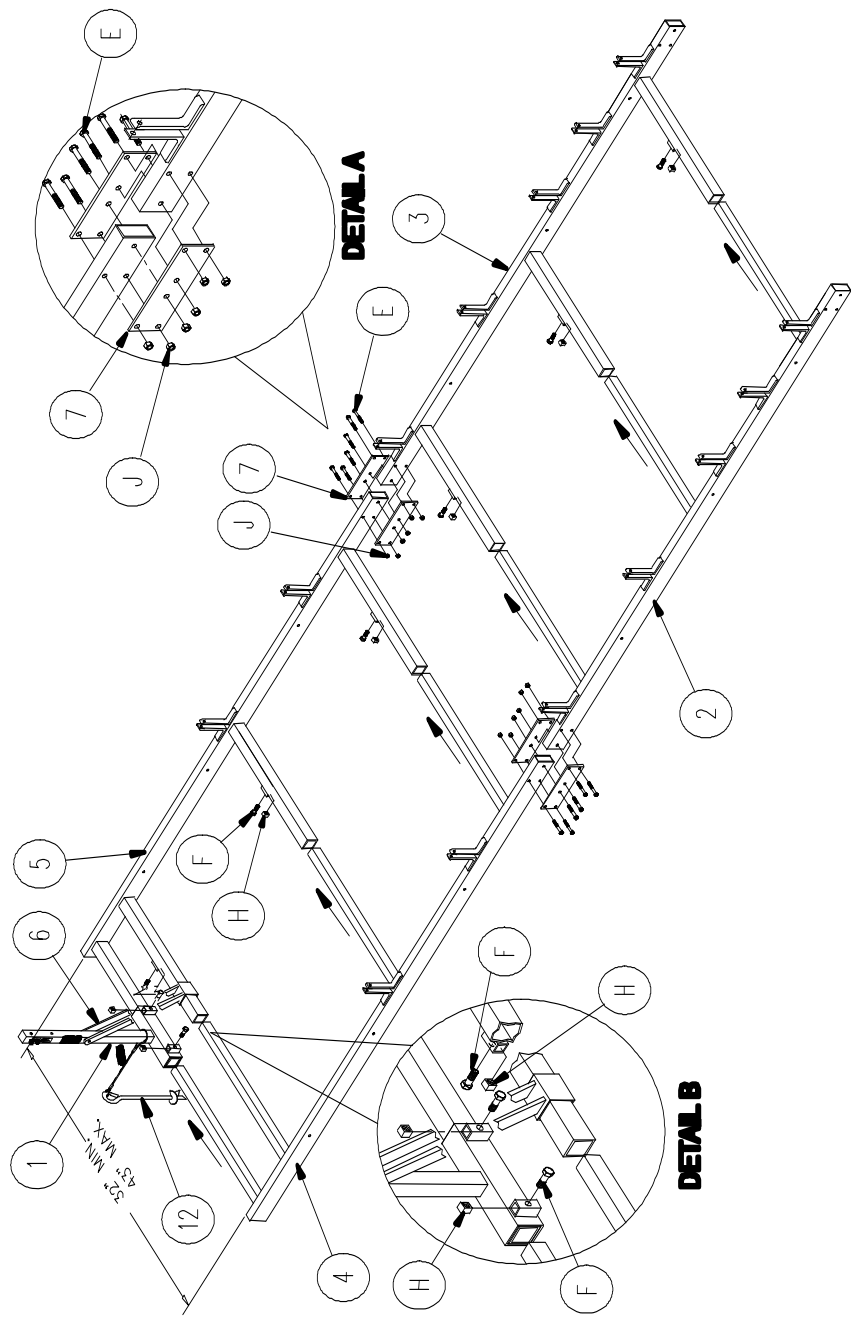

Figure 3-1.
1. Refer to **Figure 3-1**. Assemble right hand track sections using splice plate (7) and hardware (J & E) to attach track sections (5 & 3) together. Be sure to have the individual track sections placed correctly, the water end being with the rollers closest to the end of the track as shown.
2. Slide track anchor assembly (12) over winch post (1) as shown.
3. Install winch post (1) and winch support strut (6) together over the rail cross supports on the right hand end section (5).
5. Install square nut (H) and loosely thread hex head cap screw (F) into the right side track section cross-ties (8 places) as shown in **Detail B**.
6. Set track section spacing as required by watercraft and tighten hex head cap screw (F) to secure the track spacing.
7. The winch support (1) must remain centered on track when hex head cap screws (F) are tightened.